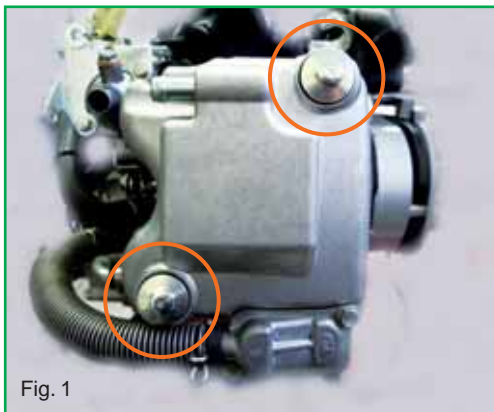

Fig. 1
- Remove the tappet cover (No. 2 M6 screws) (Fig. 1).
- Refit the valve cover (Fig. 1).